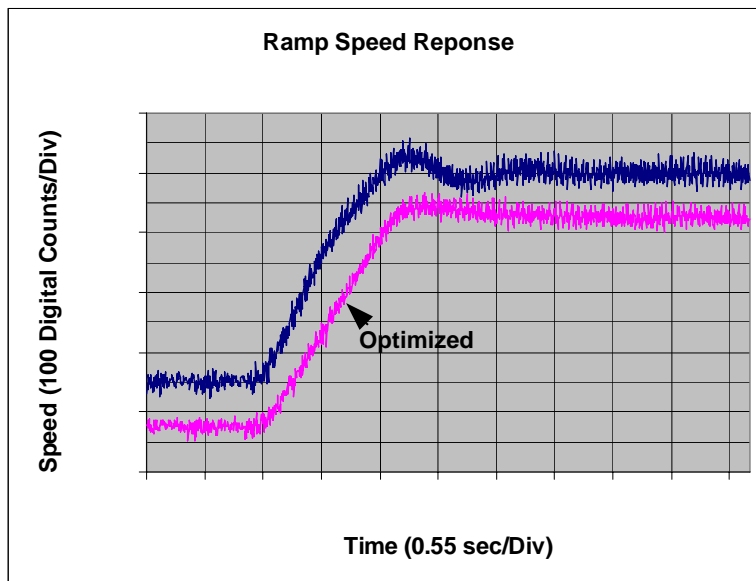

Figure 25—Comparison of Optimized and Non-optimized Speed Response
- 3) Figure 25 shows ramp speed response with non-optimized (KpSreg = Kp1, KxSreg = Kx1) and optimized (KpSreg = Kp3, KxSreg = Kx3) speed regulator gains. A tighter control response is exhibited due to the gain optimization.
- 4) It may be noticed that there is still slight overshoot on the optimized Ramp Speed response (Figure 25). Most applications can tolerate a slight overshoot (<10%).